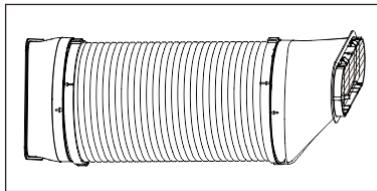

Fig.3
- 3) After assemble, like the fig. (Fig. 3)